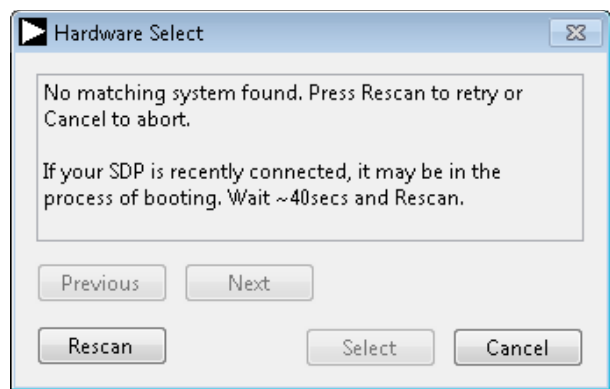

Figure 15. SDP-H1 Board Not Connected to the USB Port Error
2. The software automatically seeks to find the hardware connected; therefore, when no hardware is connected, it displays a connectivity error (see Figure 15) when the software is launched. Connect the evaluation board to the **SDP-H1** and connect the **SDP-H1** to the USB port of the PC, wait a few seconds, click **Rescan**, and then follow the instructions (see Figure 15).